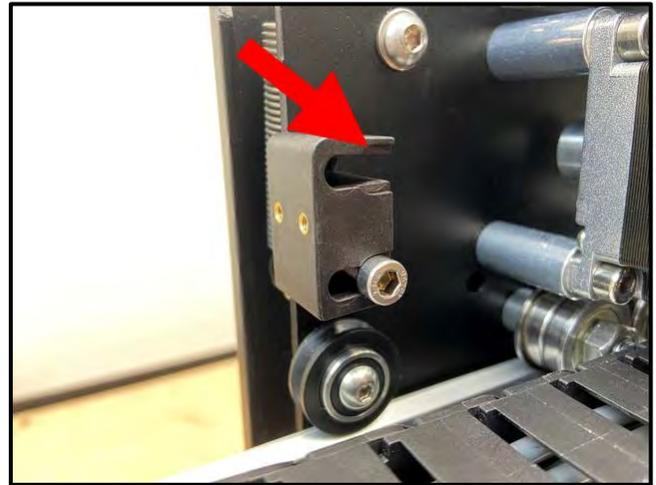

Figure 12
1. Install the X-Axis proximity switch mount to the back of the X/Z-carriage. See **Fig. 12**.
- c. Use a 4mm hex key and two (2) M5×25mm SHCS to secure.